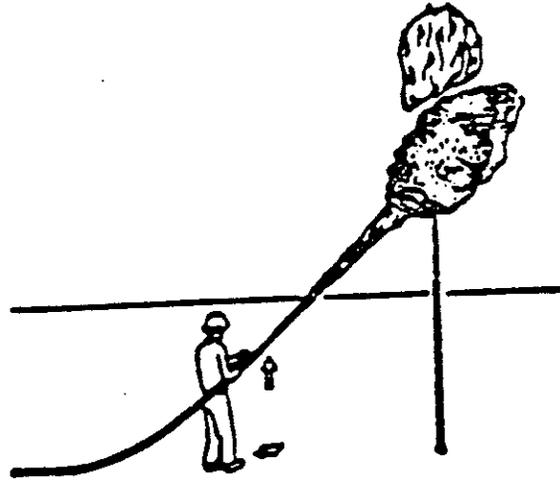
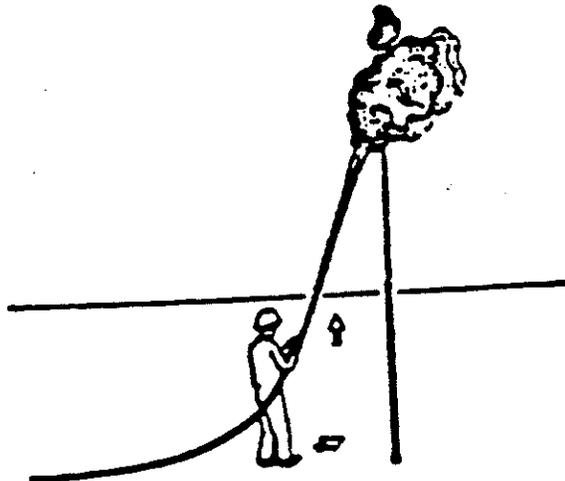

Fig. 2
Fig. 3
3. Move the dry chemical up the stream of escaping gas. (Fig. 2) Continue moving the dry chemical stream upwind until the fire ball is extinguished. (Fig. 3)